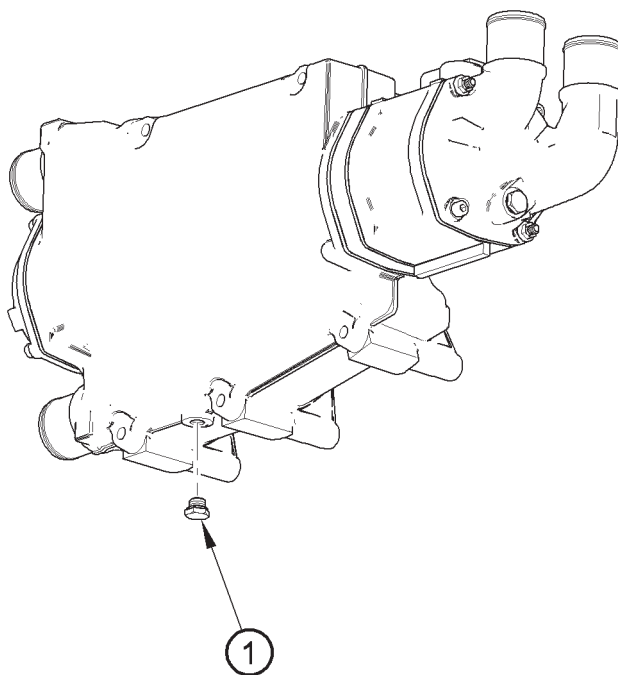

Figure 3
2. Remove the drain plug (figure 3 item 1) from the heat exchanger.